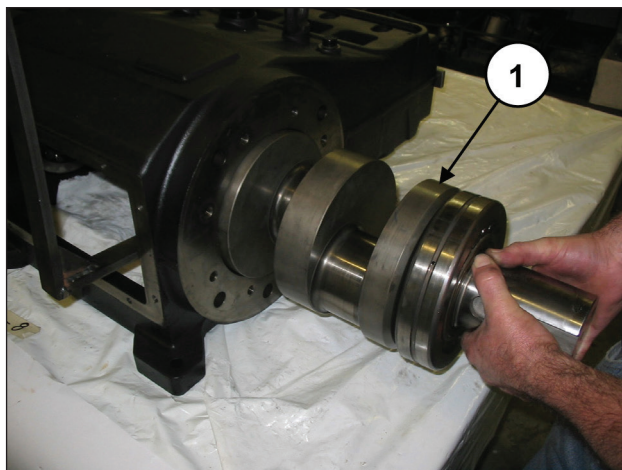
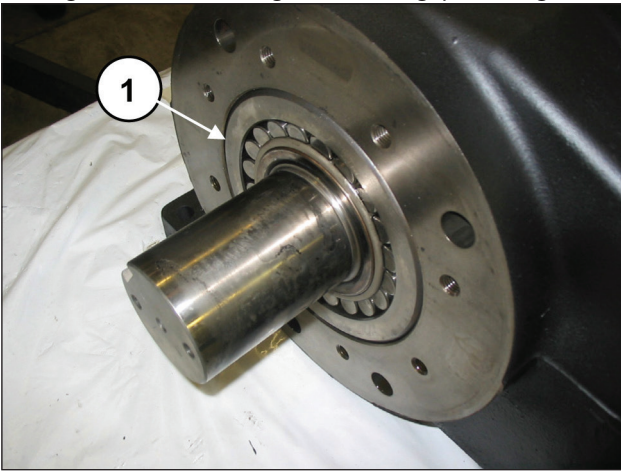

Fig. 30
Fig. 44
Extract the shaft and bearing (pos. ①, Fig. 30).
Insert the shaft (pos. ①, Fig. 30) until the pre-assembled bearing is flush with the edge of the casing (pos. ①, Fig. 44).